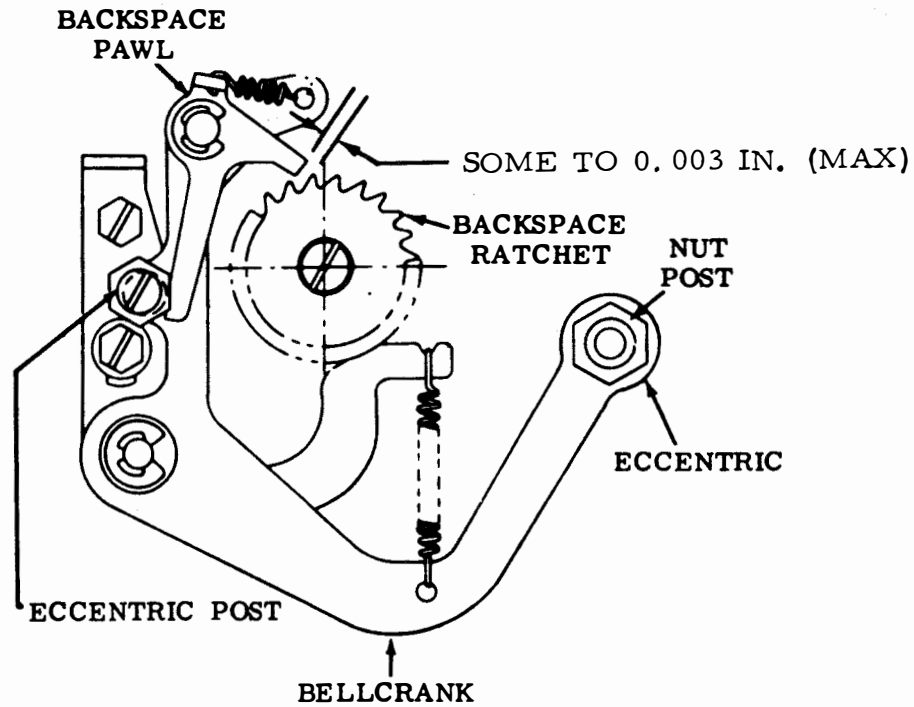

Figure 6-482. Feed Pawl Eccentric (Preliminary) (For Fully Perforated Tape), Reperforator
(3) Feed Pawl Eccentric (Preliminary). Adjust as follows:
- (a) Refer to Figure 6-482.